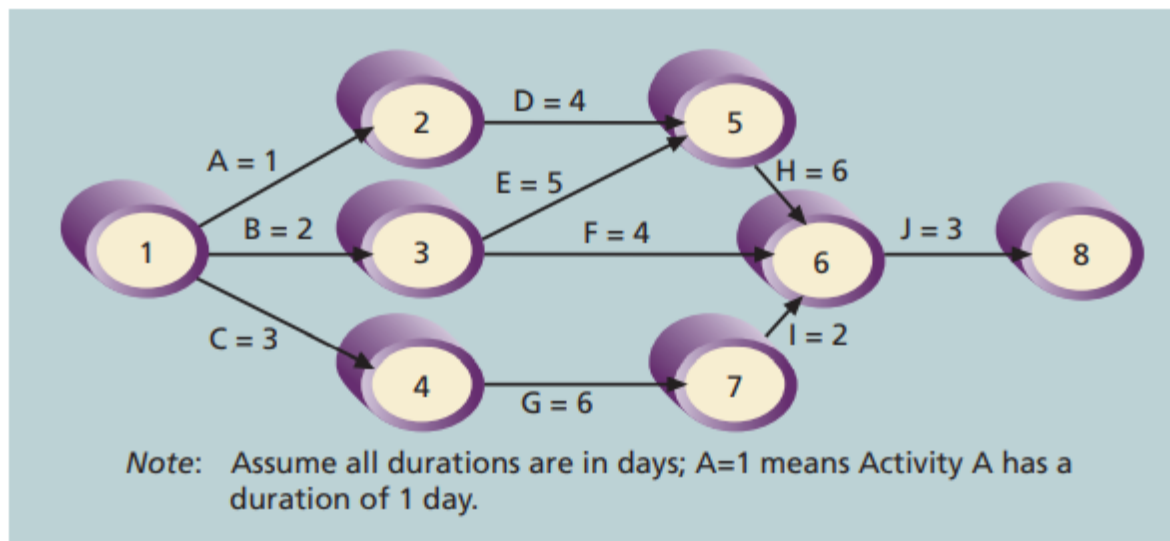
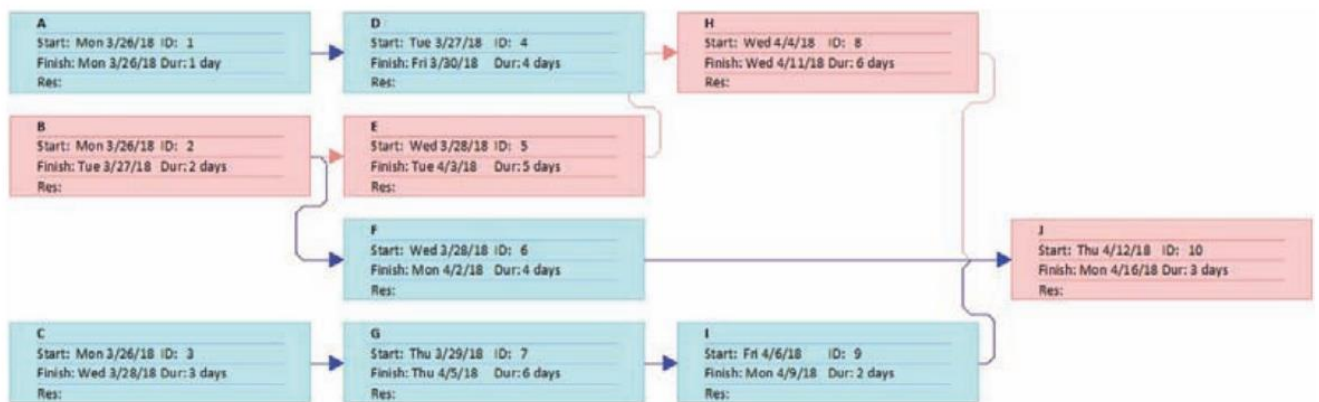
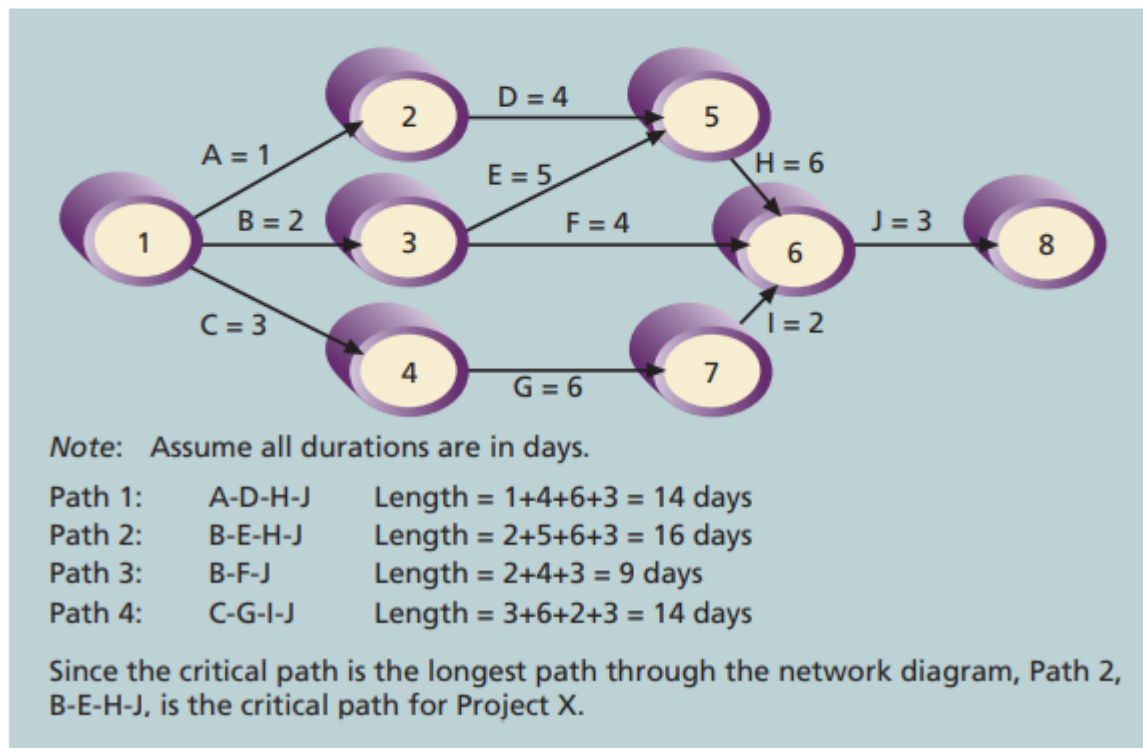

FIGURE 6-2 Network diagram for project X
FIGURE 6-4 Precedence diagramming methods (PDM) network diagram for project X
FIGURE 6-8 Determining the critical path for project X
1. Using Figure 6-2, enter the activities, their durations (in days), and their relationships in Project 2016. Use a project start date of March 26, 2018 if you want the dates to match exactly. View the network diagram. Does it look like Figure 6-4? Print the network diagram on one page. Return to the Gantt chart view. To re-create Table 6-1, right-click the **Select All** button to the left of the Task Mode column heading and select **Schedule**. Alternatively, you can click the **View** tab and click the **Tables** button under the Data group and then select **Schedule**. You may need to move the split bar to the right to reveal all of the table columns. (See Appendix A—available on the Companion website for this text—for detailed information on using Project 2016.) Write a few paragraphs explaining what the network diagram and schedule table show about Project X's schedule.
Network diagrams are the preferred technique for showing activity sequencing. A **network diagram** is a schematic display of the logical relationships among project activities and their sequencing. Some people refer to network diagrams as project schedule network diagrams or PERT charts. PERT is described later in this chapter. **Figure 6-2** shows a sample network diagram for Project X.
1. Find all of the activities that start at Node 1. Draw their finish nodes, and draw arrows between Node 1 and each of the finish nodes. Put the activity letter or name on the associated arrow. If you have a duration estimate, write it next to the activity letter or name, as shown in **Figure 6-2**. For example, $A = 1$ means that the duration of Activity A is one day, week, or other standard unit of time. Be sure to put arrowheads on all arrows to signify the direction of the relationships.
2. Continue drawing the network diagram, working from left to right. Look for bursts and merges. **Bursts** occur when two or more activities follow a single node. A **merge** occurs when two or more nodes precede a single node. For example, in **Figure 6-2**, Node 1 is a burst because it goes into Nodes 2, 3, and 4. Node 5 is a merge preceded by Nodes 2 and 3.
- I. Using Figure 6-2, enter the activities, their durations (in days), and their relationships in Project 2019. Use a project start date of March 26, 2018 for the dates to match exactly.
- II. View the network diagram from within the Gantt chart you created in step I. Does it look like Figure 6-4?
Figure 6-4 illustrates Project X using the precedence diagramming method. Notice that the activities are placed inside boxes, which represent the nodes on this diagram. Arrows show the relationships between activities. This figure was created using Microsoft Project, which automatically places additional information inside each node. Each task box includes the start and finish dates, which are labeled Start and Finish; the task ID number, labeled ID; the task's duration, labeled Dur; and the names of resources, if any, that are assigned to the task. These resources are labeled Res. The border of boxes for tasks on the critical path appears automatically in red in the Microsoft Project network diagram view.
Using project management software is a much faster and easier way to determine early and late start and finish dates and free and total slack amounts for activities. **Table 6-1** shows the free and total slack for all activities on the network diagram for Project X using the data from Figure 6-8 and assuming that Tasks A, B, and C started on March 26, 2018. (The network diagram is shown in Figure 6-4, which was created with Microsoft Project.) The data in this table was created by selecting the Schedule Table view in Microsoft Project.
- b. Identify all of the paths on the network diagram and note how long they are, using Figure 6-8 as a guide for how to represent each path.
II. Identify all of the paths on the network diagram and note how long they are, using Figure 6-8 as a guide for how to represent each path.
Figure 6-8 shows the AOA network diagram for Project X again. Note that you can use either the AOA or precedence diagramming method to determine the critical path on projects. **Figure 6-8** shows all of the paths—a total of four—through the network diagram. Note that each path starts at the first node (1) and ends at the last node (8) on the AOA network diagram. This figure also shows the length or total duration of each path through the network diagram. These lengths are computed by adding the durations of each activity on the path. Because path B-E-H-J has the longest duration at 16 days, it is the critical path for the project.
is also equal to the early start date of each subsequent activity unless an activity has multiple predecessors. When an activity has multiple predecessors, its early start date is the latest of the early finish dates of those predecessors. For example, Tasks D and E immediately precede Task H in Figure 6-8. The early start date for Task H, therefore, is the early finish date of Task E, because it occurs later than the early finish date of Task D. A backward pass through the network diagram determines the late start and late finish dates for each activity in a similar fashion. The late start date is the latest possible time an activity might begin without delaying the project finish date. The late finish date is the latest possible time an activity can be completed without delaying the project finish date.